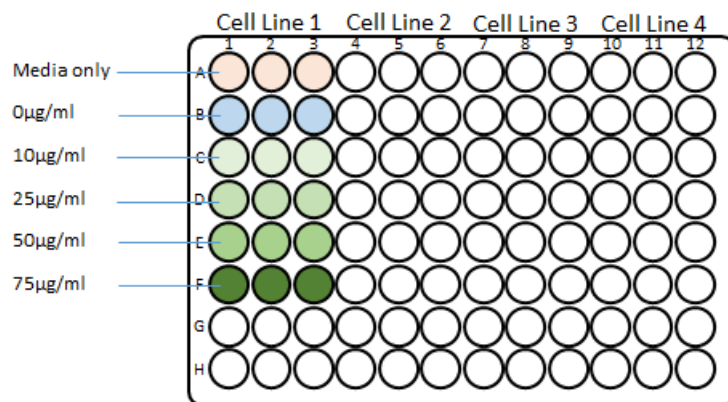

Figure 1. Plate layout for blasticidin titration of one cell line.
Always seed 3 wells per row as the titration is carried out in triplicate. Therefore, a 96-well plate can be used to titrate up to 4 cell lines at a time (see Fig. 1).
- 6 Pipette **75 µl** of the blasticidin 2x concentrations into the first 3 wells of rows C-F, to achieve the final concentrations as per the plate layout shown in Fig. 1.